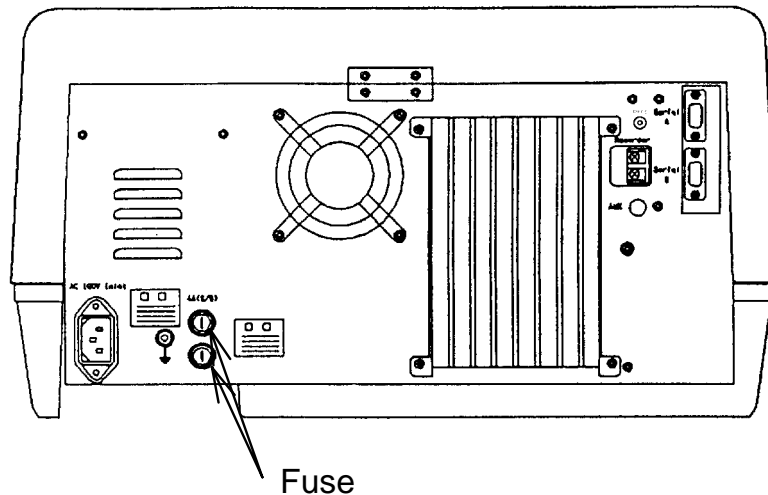

Fig. 4.7 V-550/560/570 rear panel
- (1) Turn off the power and unplug the AC power cable from the outlet.
- (2) Insert a flat-headed screwdriver into the fuse holder at the rear of instrument (Fig. 4.7). Push and turn about 90° counterclockwise to remove the fuse holder and fuse.
- (3) Remove the old fuse and insert a new fuse into the holder. Replace the fuse holder, and push and turn the holder 90° clockwise to lock.
- (4) Plug the power cable into the electrical outlet and turn on the power to operate the unit.